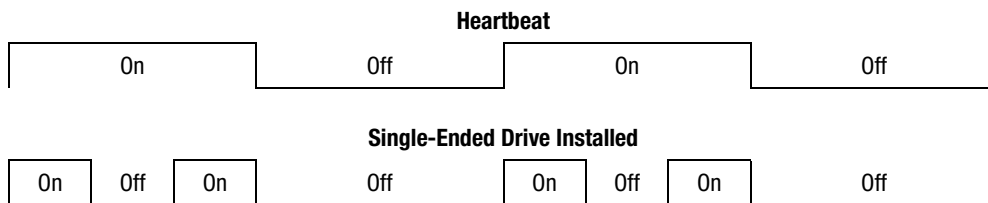

Figure 4-4. EMU LED display
When the green LED ❶ is flashing slowly, the EMU is operational. If it is on or off, there is an internal problem. When flashing rapidly, the EMU is operational and there is a single-ended drive installed in the tape array (see Figure 4-4).
The green EMU status displays the EMU status and identifies the drive types, either LVD or single-ended. This LED flashes at two different rates (see Figure 4-4).
| <input type="radio"/> When flashing once per second (see heartbeat in Figure 4-4) both the EMU and the tape array are operational. | | |
| <input type="radio"/> When flashing twice per second (see single-ended drive in Figure 4-4) both the EMU and the tape array are operational but there is a single-ended drive installed.. | | |